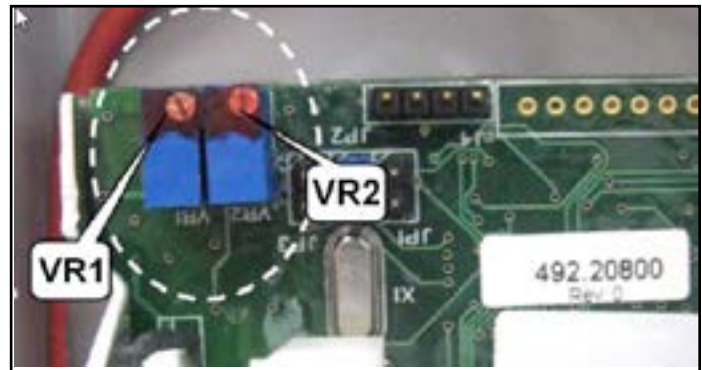

Fig. 21
- a) Safe working load:** By actuating the hand control, make sure that the lift raises the safe working load on its entire stroke. If not, adjust the current limiter with the potentiometer VR1 (see Fig. 21). Keep the safe working load raised for the next step.
- a) Safe working load:** By actuating the handset, make sure that the lift raises the safe working load on its entire stroke. If not, adjust the current limiter with the potentiometer RV1 (see Fig. 21). Keep the safe working load raised for the next step. Turn the potentiometer clockwise to increase the current.
- b) Safe working load X 1.5:** Using the buttons of the control panel make sure that the hoist does not lift 1.5 x its safe working load (175 kg / 385 lb). If it does, adjust the current limiter with the potentiometer RV1 (see Fig. 21). Turn the potentiometer counter-clockwise to decrease the current.